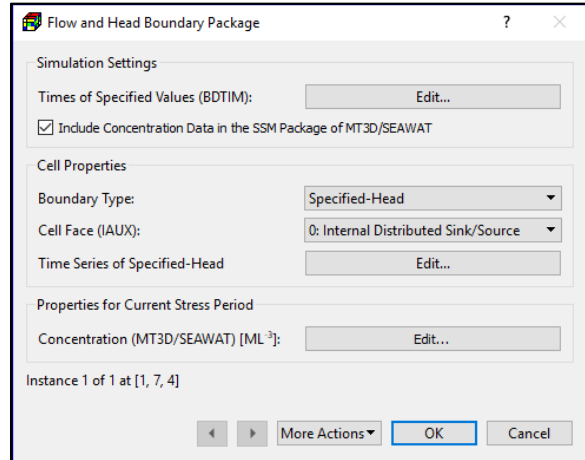
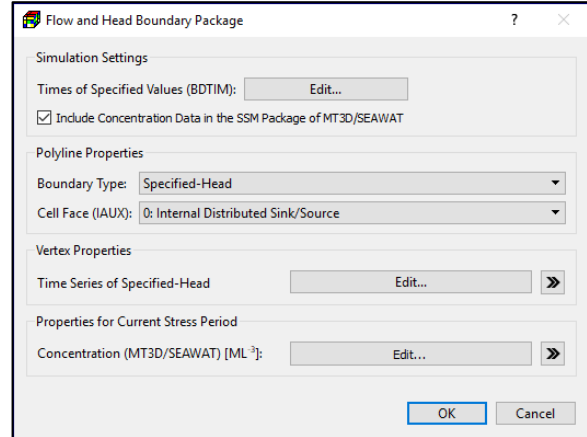
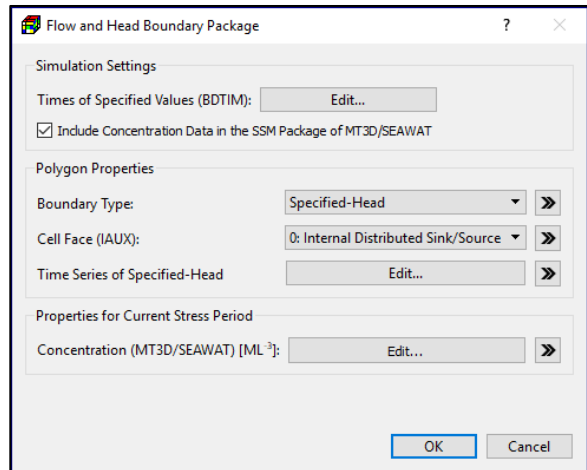

Figure 48. The Flow and Head Boundary Package dialog box for specifying cell properties
Figure 50. The Flow and Head Boundary Package dialog box for specifying vertex
Figure 51. The Flow and Head Boundary Package for specifying polygon properties
1. **All input methods:** The data entry dialog boxes (Figure 48, Figure 50, Figure 51) of all input methods include a Simulation Settings group that contains the following options:
1. **Cell-by-cell input method:** Figure 48 shows the dialog box for specifying one or more FHB1 instances to a model cell.
2. **Polyline input method:** Figure 50 shows the dialog box that is used to specify vertex/polyline properties.
3. **Polygon input method:** Figure 51 shows the dialog box that is used to specify polygon properties. These data may be applied to model cells following the rules described in Section 3.3.2.3.